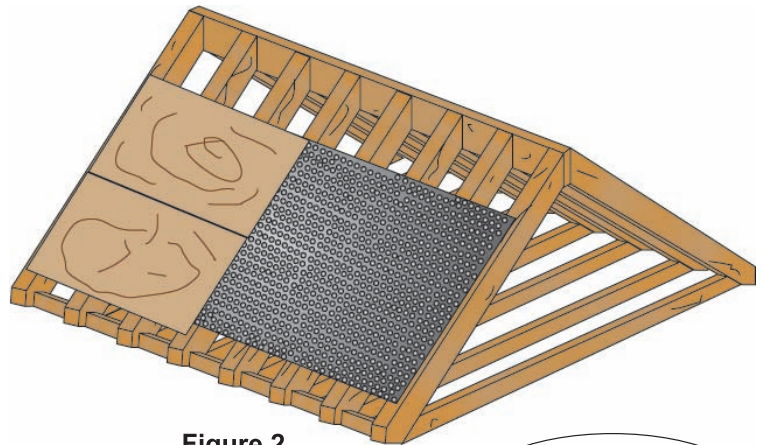

Figure 2
2. The radiant barrier should be run across the roof trusses as shown in (Figure 2).